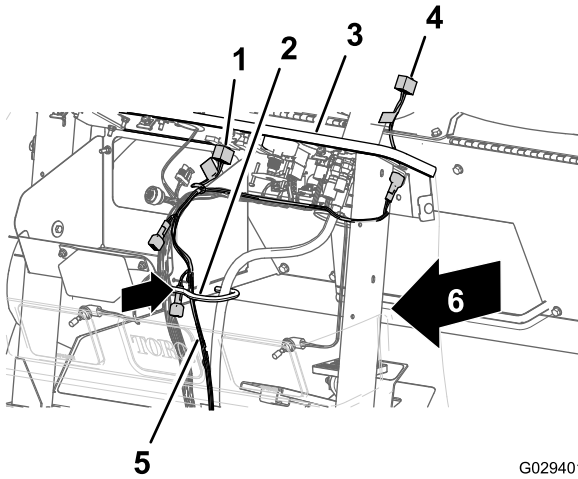

Figure 14
3. Route the 240 cm (94-1/2 inch)—dash-panel branch of the wiring harness through the grommet at the opening in the forward bulkhead and inboard of the cable and hose hook (Figure 14).